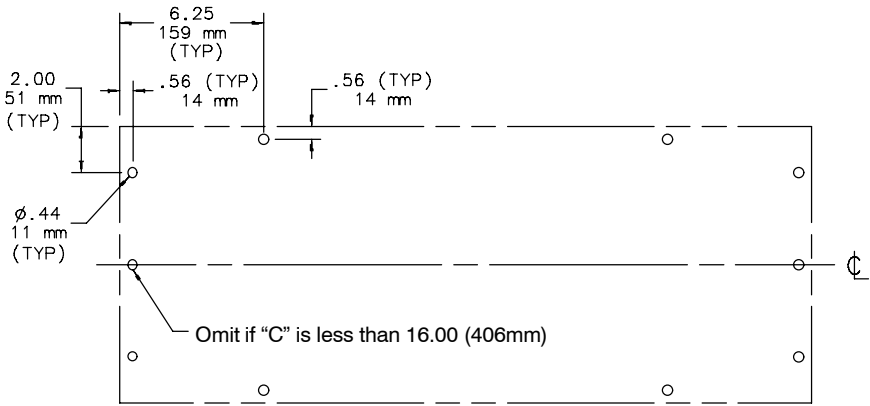

Figure 2 – Enclosure Bottom Hole Pattern
- Drill the appropriate hole pattern in the bottom of the enclosure as shown in figure 2.